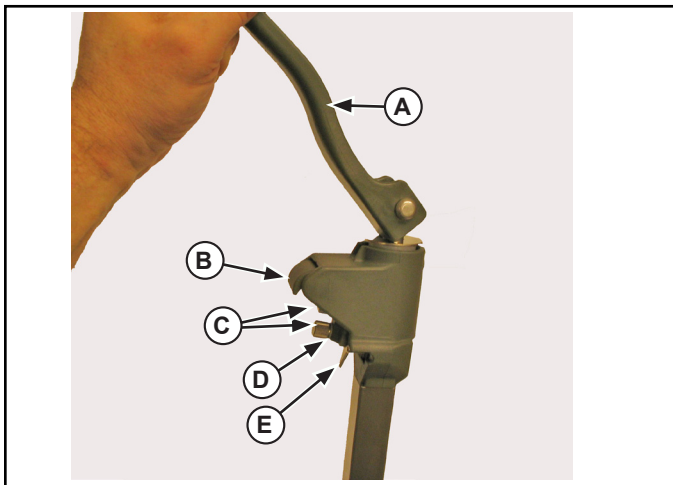

Figure 9. Blade Cartridge and Blade Removal and Installation.
1. Move the handle (A) to the position as shown in Figure 9.